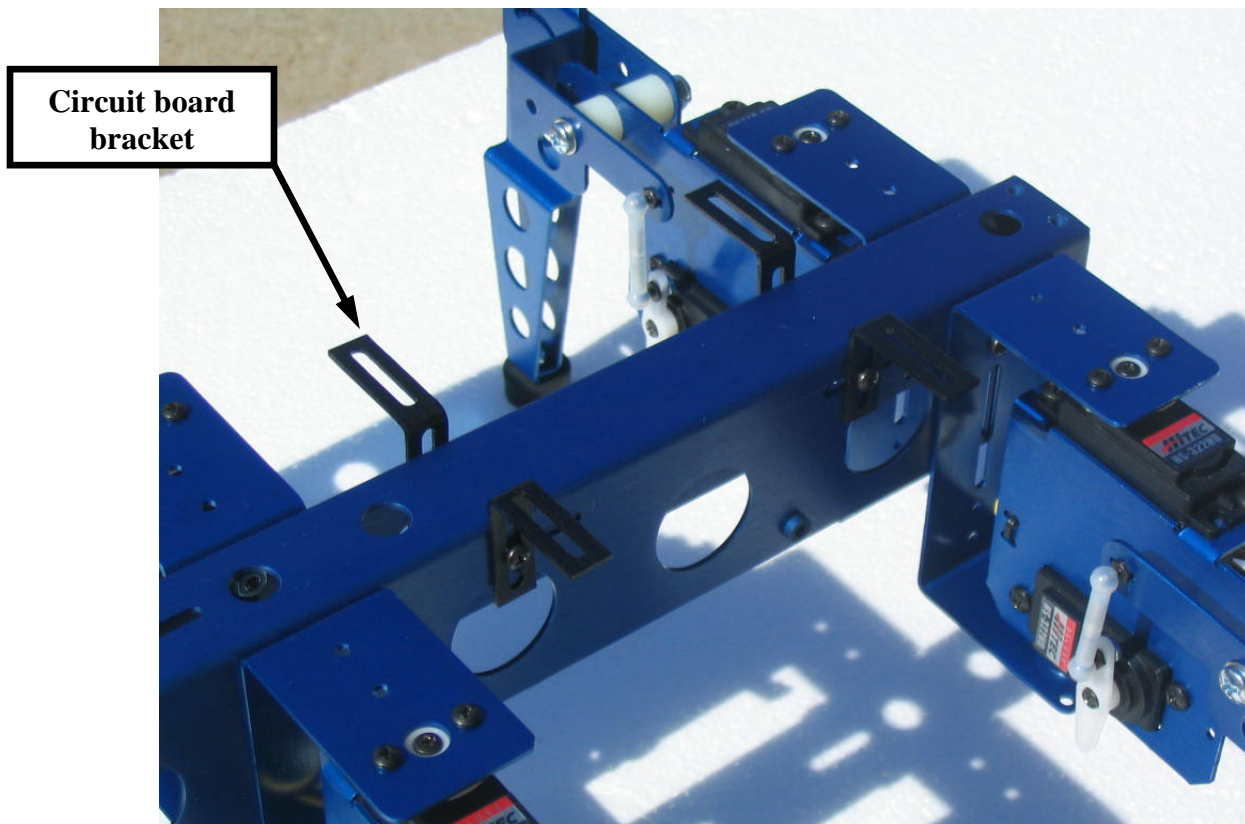

Figure 20
23. Using (4) #4-1/4" screws, lock washers and nuts, install the circuit board holder brackets to the slots located near the top of the channel as shown in figure 20. Be sure to note that one side of the bracket is longer than the other and to use the correct size to match the size of the microcontroller board that you will be installing. Mount the circuit board holder brackets flush with the top of the channel to make leveling all of the brackets easier.
- **Note 2:** Install your circuit board holder brackets to the rear of the robot for either the HexRod or QuadRod kits as shown in figure 20.